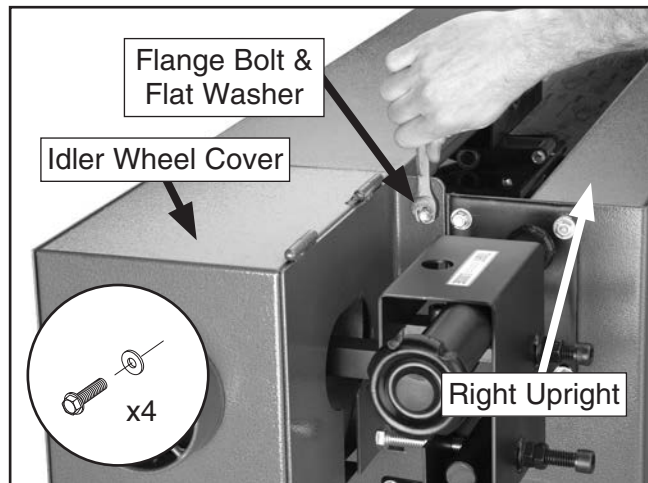

Figure 21. Idler wheel cover.
15. Attach the idler wheel cover to the right upright with (2) $\frac{5}{16}$ "-18 x $\frac{1}{2}$ " flange bolts and (2) $\frac{5}{16}$ " flat washers (**Figure 21**).